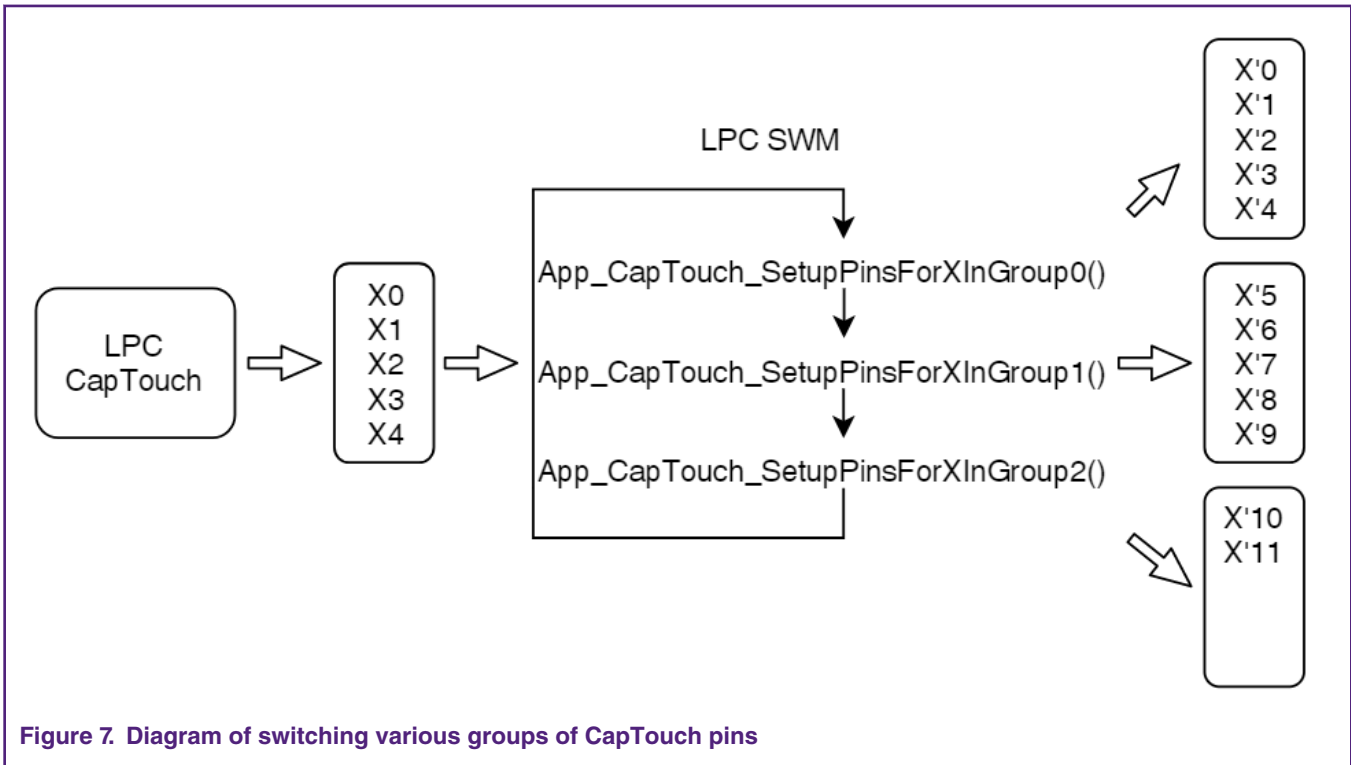

Figure 7. Diagram of switching various groups of CapTouch pins
- App\_CapTouch\_ScanDoneHandler() includes the steps of stopping the most recent done sequence, moving the group index to next, preparing the pins settings for next group, and launching the scan for next group finally. See to Figure 7 as the diagram of switching different group of CapTouch pins.